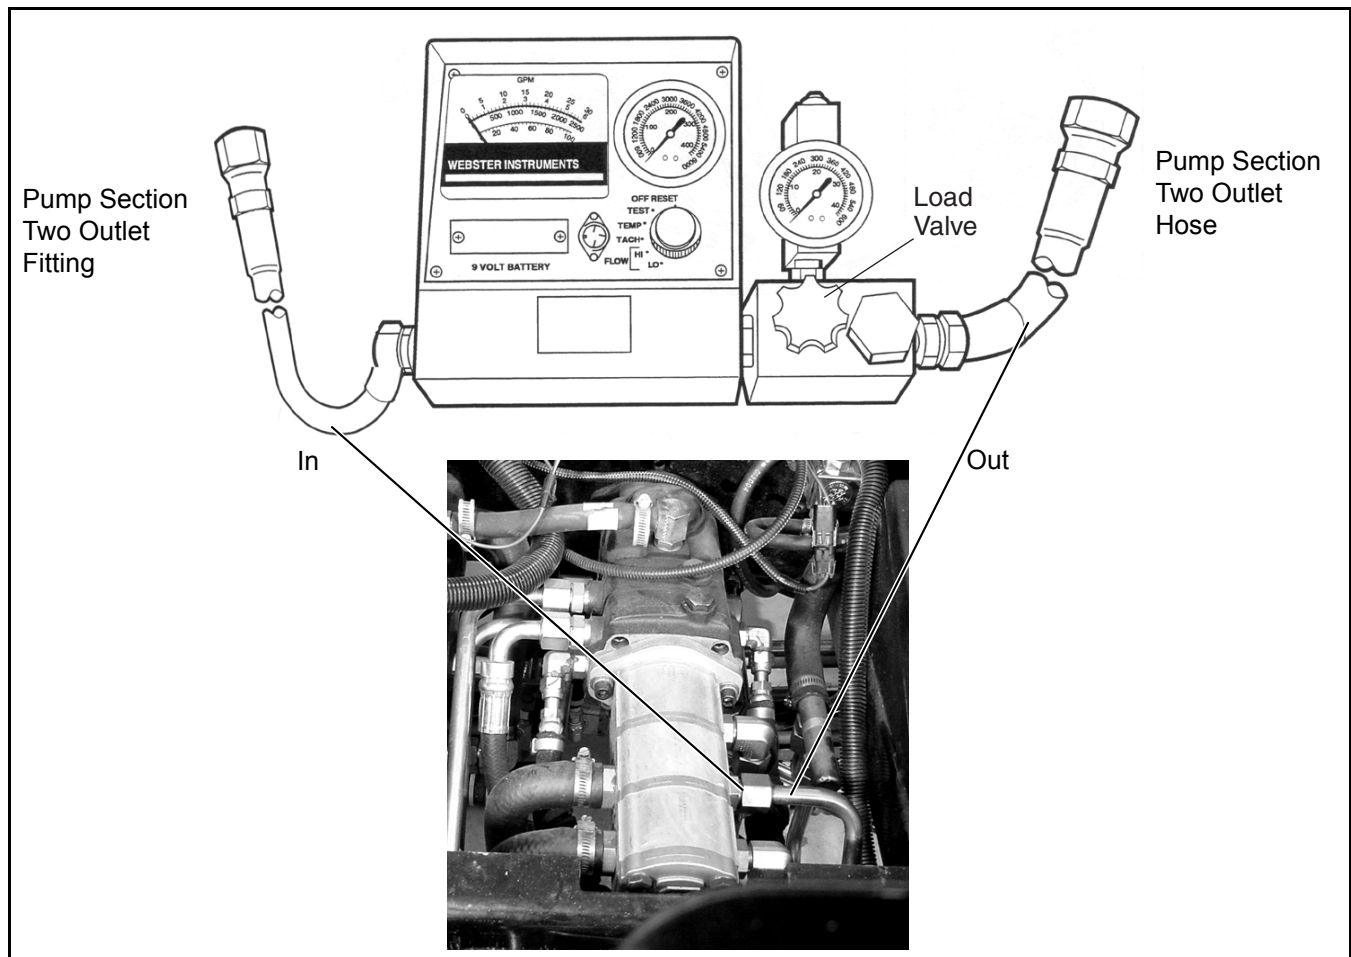

Figure 8O-10. Rear Reel Pump Test
2. Connect the flow meter to the reel (auxiliary) hydraulic pump section three. Connect the flow meter IN port to the section three-pressure fitting and the flow meter OUT port to the section three pressure hose (Figure 8O-11).